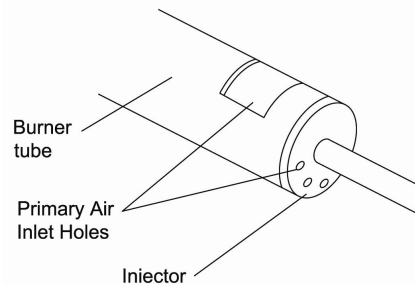

Figure 22 – Injector holder on Outlet Burner Tube
2. Inspect burner, pilot and primary air inlet holes on injector holder for dust and dirt (see Figure 22).